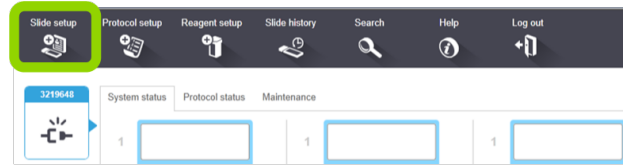

Figure 88: Slide setup icon
1. Click the **Slide setup** icon (see Figure 88).